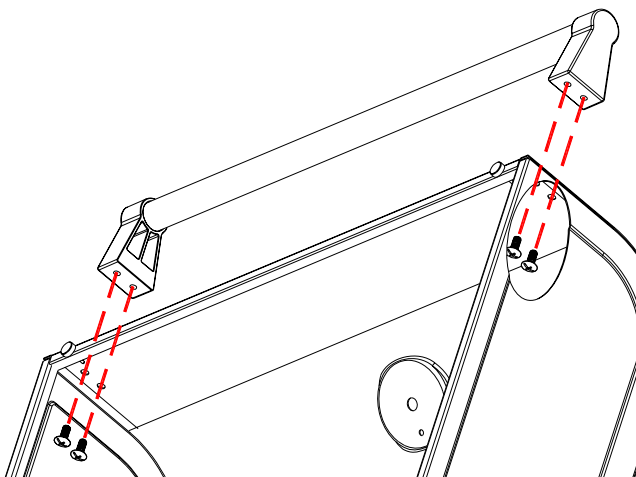

Fig. 15
*Locate:* Charcoal Lid, (2) Handle Stand-offs, (1) Long Handle Tube and (4) M6x15 bolts
*Procedure:* Refer to Fig. 15. Open the Charcoal Grill Lid. Place (2) M6x15 bolts through the Lid holes on one side of the Lid. Fit a Handle Stand-off over the bolts and attach the Stand-off to the Lid. Fit the long Handle Tube into both Stand-offs and then repeat the procedure of inserting the screws through the Lid and into the other Stand-off. Tighten all (4) bolts securely.